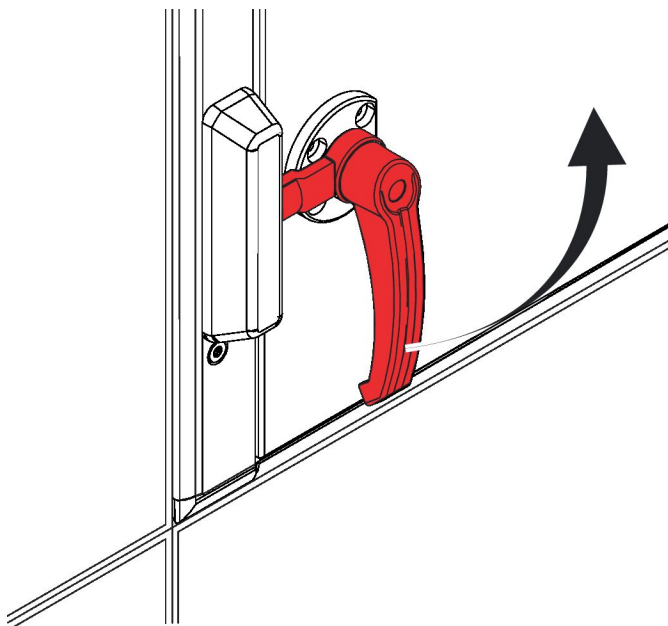

Fig. 50: Opening a door lock
1. ▶ Turn the door handle anti-clockwise by 90° (Fig. 50).